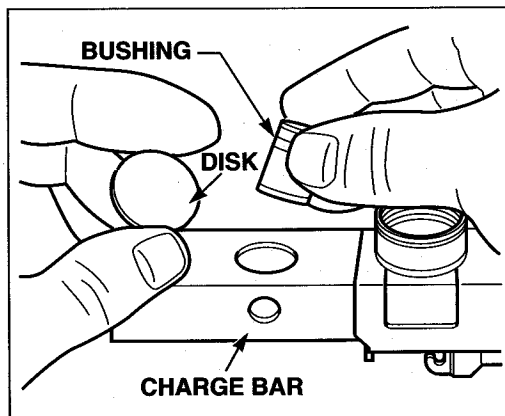

Figure 11
3. Remove the charge bar by sliding it to the left, as shown in Figure 11, and remove the disc covering the powder bushing hole.